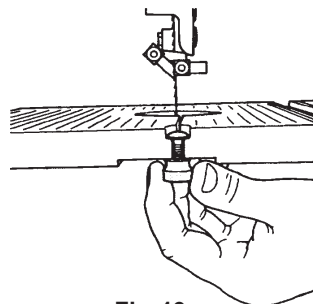

Fig. 19
18. Install the leveling bolt (89) and knurled nut (88) on the table, as in Fig. 19.